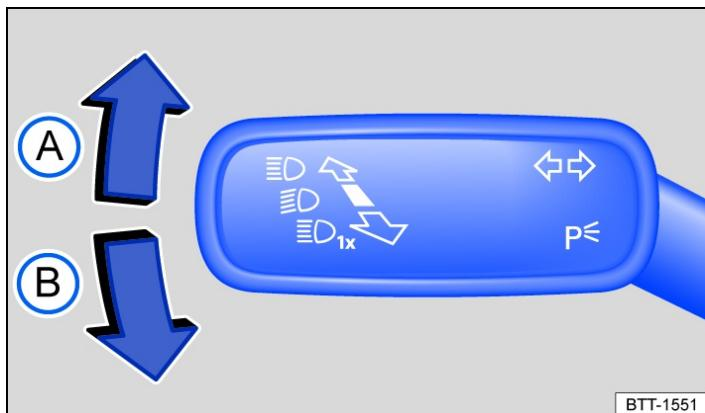

Fig. 1 On the left-hand side of the steering column: turn signal and main beam lever.
- Move the turn signal and main beam lever from the centre position to the following position → *Fig. 1*:
- (A) Right turn signal ➡.
- (B) Left turn signal ⬅.